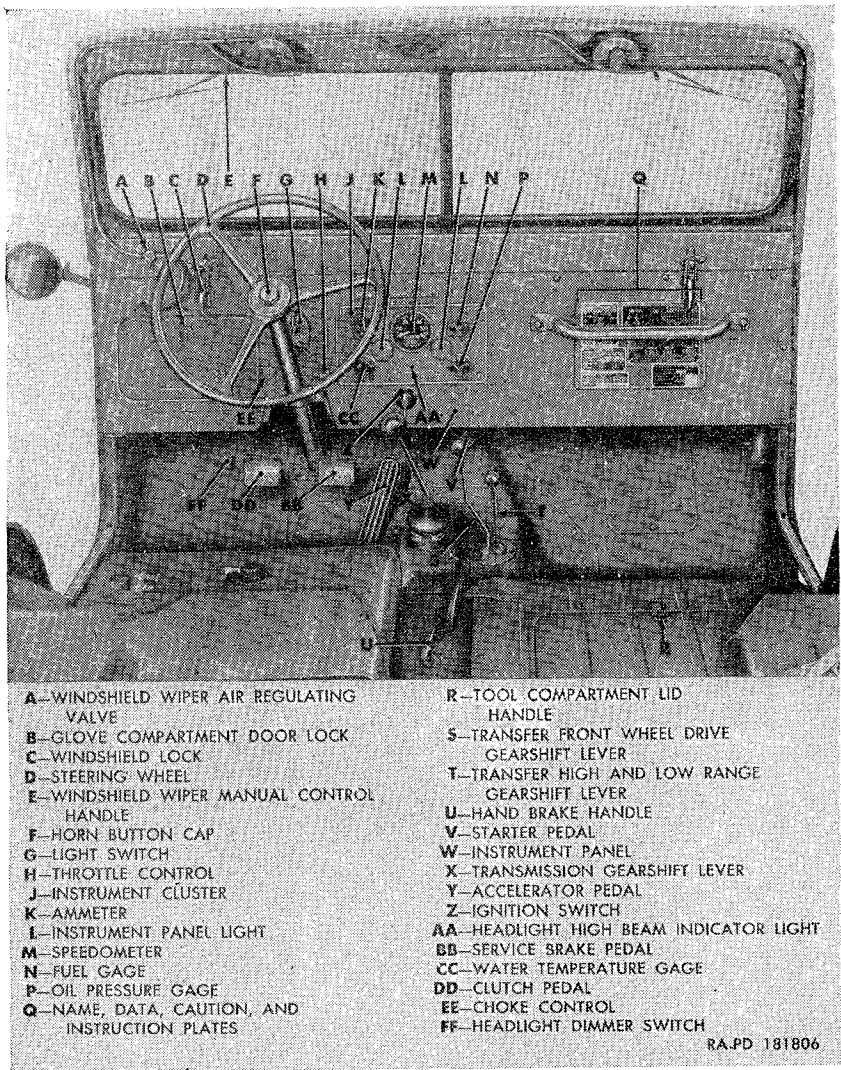
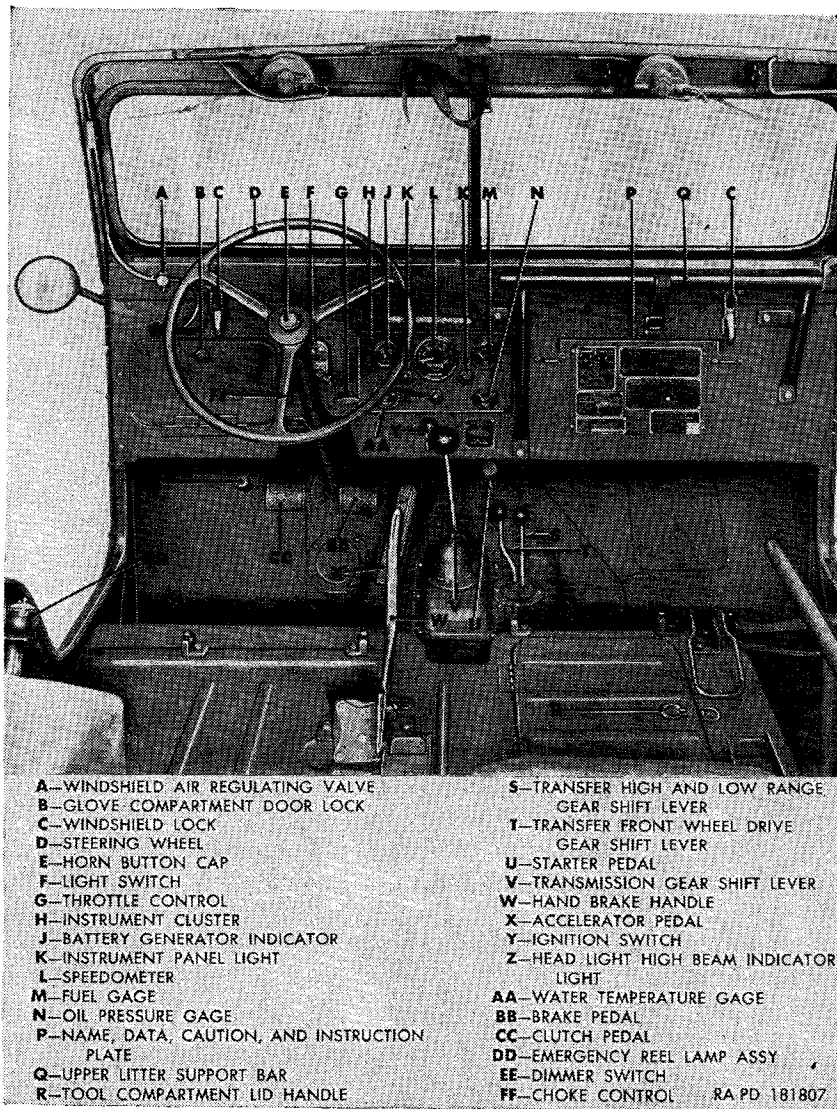
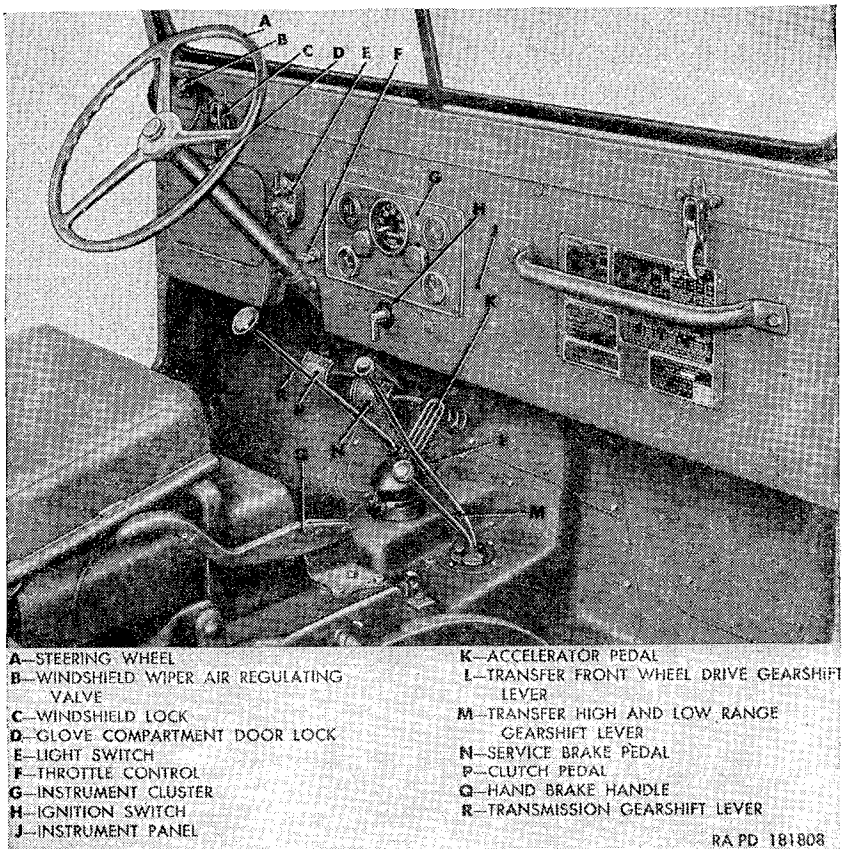
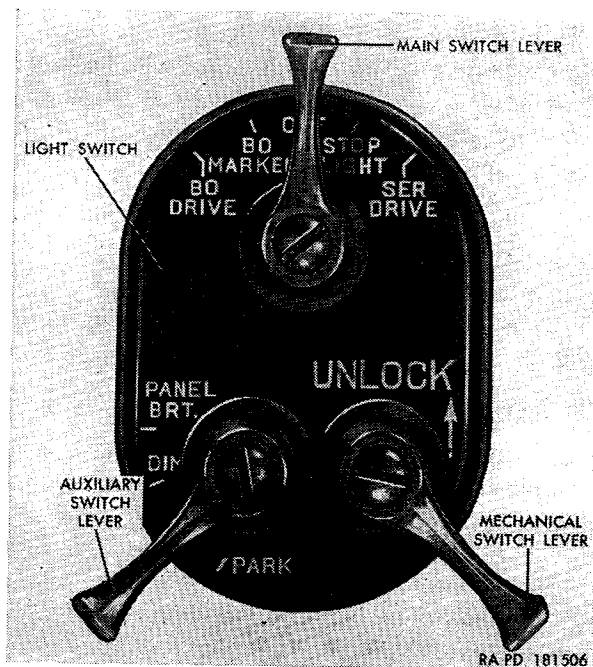

Figure 11. Driver's compartment (M38A1)—rear view—seat removed.
Figure 12. Driver's compartment (M170)—rear view—seat removed.
Figure 13. Driver's compartment (M38A1)—right view.
Figure 15. Light switch—levers in off positions.
*b.* All pedal and hand lever controls, instruments, gages, and switches are grouped in the driver's compartment (figs. 11 and 13) and are readily accessible to the driver for the operation of the vehicle. The major graduations, letters, figures, and pointer tips on all instruments and gages grouped in the instrument cluster (J, fig. 11) are coated with luminous paint for visibility during night operation.
The steering wheel (D, fig. 11 and A, fig. 13), located on the left side of the driver's compartment, turns the front wheels and thereby steers the vehicle. Turn the steering wheel clockwise for a right turn and counterclockwise for a left turn.
The service brake pedal (BB, fig. 11 and N, fig. 13) located on the upper-front floor pan cover to the right of the steering gear jacket and is accessible to the driver's right foot. This pedal controls the hydraulic service brakes on all four wheels. Depress the service brake pedal to apply the brakes. The degree of brake application is dependent upon the amount of physical effort applied to the brake pedal. Release the pedal to release the brakes.
The clutch pedal (DD, fig. 11 and P, fig. 13) is located on the upper-front floor pan cover at the left of the steering gear jacket and is accessible to the driver's left foot. This pedal functions to engage and disengage the clutch with and from the engine flywheel thereby connecting and disconnecting the transmission with and from the engine. Depress the pedal to disengage the clutch. Release the pedal to engage the clutch.
The accelerator pedal (Y, fig. 11 and K, fig. 13) located on the lower-front floor pan cover to the right of the brake pedal, is connected to the carburetor throttle controls and governs the engine speed from idling to full speed in varying degrees dependent upon foot pressure applied. Depress the pedal to increase engine speed. Release the pedal to decrease engine speed. The pedal, when released, will automatically return the engine to the set idling speed.
The starter pedal (V, fig. 11), attached to the upper-front floor pan cover at the right of the accelerator pedal, is a foot-operated control which actuates the starter switch on the starter, causing the starter to become engaged with the engine flywheel, thus cranking the engine. Depress the starter pedal to crank the engine. The pedal, when released, returns automatically to the normal position.
The transmission gearshift lever (X, fig. 11 and R, fig. 13) is located in the transmission control lever cover and extends upward into the driver's compartment. This manually operated lever, accessible to the driver's right hand, may be shifted from neutral position to place the transmission in first, second, third or reverse speeds as indicated on the shifting instruction plate (fig. 6). Operation of the transmission gearshift lever is described in paragraphs 43 and 45.
*a. Front Wheel Drive.* The transfer front wheel drive gearshift lever (S, fig. 11 and L, fig. 13), located in the driver's compartment immediately to the right of the transmission gearshift lever, controls the front axle drive selection. Shifting positions for this lever are illustrated on the shifting instruction plate (fig. 6). Operation of the lever is covered in paragraphs 43 and 46.
*b. High and Low Range.* The transfer high and low range gearshift lever (T, fig. 11 and M, fig. 13), located in the driver's compartment at the right of the transfer front wheel drive gearshift lever, provides for manual selection of auxiliary speed ranges in the transfer. This lever may be positioned in any one of three positions (low range, neutral range, and high range) depending upon operating conditions.
The hand brake handle (U, fig. 11 and W, fig. 12), located at the right of the driver's seat, actuates the mechanical hand brake mechanism mounted on the transfer. To set the hand brake, pull on the hand brake handle. To release the hand brake, press the release lever on the underside of the handle and permit handle to return to the released position. A ratchet mechanism within the handle will hold the hand brake applied until released by pressing the release lever.
The throttle control (H, fig. 11 and F, fig. 13), located at the lower edge of the instrument panel at the right of the steering gear jacket, provides a hand-operated control of engine speeds. It is primarily used to set the carburetor throttle at the desired starting and warmup speed. To accelerate engine, pull throttle control out to desired position. To return engine to its set idling speed, turn control 90° or more to the right or left and push control in against instrument panel. A ratchet arrangement is incorporated in the control to hold it in the desired pulled-out position. Control must be positioned so the imprinted THROTTLE is right side up before ratchet will engage.
The choke control (EE, fig. 11) is located at the lower edge of the instrument panel at the left of the steering gear jacket. This control is connected to the lever of the carburetor choke valve shaft with lever assembly which closes in proportion to the degree the choke control is pulled out. The control is used when starting and operating a cold engine. Pull the control out from instrument panel as desired when starting a cold engine. Push control all the way in against instrument panel after engine is started and operating correctly.
The lever-type ignition switch (Z, fig. 11 and H, fig. 13) is mounted on the instrument panel, directly below the instrument cluster. To turn the ignition circuit on, turn the lower end of the switch lever to the left (counterclockwise) until opposite end of lever is alined with the ON position imprinted on the ignition switch instruction plate (fig. 9). When ignition circuit is on, all the electrical gages in the instrument cluster will become energized, permitting reading of their values. To turn the ignition circuit off, turn lower end of switch lever to the right (clockwise) until opposite end of lever is alined with the OFF position imprinted on instruction plate.
(fig. 15)
*a. General.* The light switch (E, fig. 13), located on the instrument panel directly in front of the steering gear jacket, is a three lever-type with main switch, auxiliary switch, and mechanical switch levers. The light switch controls all the lights on the vehicle.
- (1) *Main switch lever.* The five-position main switch lever, located at the top of the light switch with the switch lever pointing up, can be positioned to energize the circuit to all the vehicle lights including the instrument panel and parking lights.
The headlight dimmer switch (FF, fig. 11) is located to the left of the clutch pedal. This foot-operated switch, accessible to the driver's left foot, is used to control the high and low beams of the headlights. With bright lights on (high beam), depress the dimmer switch to change to low beam and dim lights. To switch to bright lights, de-
press the dimmer switch. The headlight high beam indicator light (AA, fig. 11) indicates when high beam or bright lights are on.
Two windshield locks (C, figs. 11 and 13) are provided on the windshield assembly to hold it in the vertical position. To disengage windshield locks from the windshield locking clamp catches on the instrument panel, pull locks out at the bottoms. To engage windshield locks, position locks over the windshield locking clamp catches and push bottoms of locks toward instrument panel. Lowering and raising of the windshield assembly is described in paragraph 254.
The glove compartment door lock (B, fig. 11 and D, fig. 13) is located on the top of the glove compartment door on the extreme left of the instrument panel. To open glove compartment door, press button in center of the lock and pull door open. To close the glove compartment door, swing the door up against instrument panel. The lock will automatically latch when door is closed.
The tool compartment is located under the front passenger seat on the right side of the driver's compartment and provides for vehicular tool stowage. To gain access to tool compartment, swing front passenger seat up and forward. To open tool compartment lid, turn the tool compartment lid handle (R, fig. 11) 90° and pull upward. To close tool compartment lid, lower lid making sure handle is turned 90° to clear flange of tool compartment, and lock the lid by turning handle 90° toward front of vehicle.
The windshield wiper air regulating valve (A, fig. 11 and B, fig. 13) is located on the windshield assembly at the left of the steering wheel. This valve controls the operation of the windshield wiper motors. To turn the motors on, turn the valve lever counterclockwise. To turn the motors off, turn the valve lever clockwise.
A windshield wiper manual control handle (E, fig. 11) is mounted on each windshield wiper motor for manual operation of the windshield wiper blade. To operate blade, move handle back and forth as necessary.
The horn button cap (F, fig. 11) is located in the center of the steering wheel. Depress cap to sound the horn. Release cap pressure to stop sounding of horn.
The ammeter (M38A1) (K, fig. 11) and the battery generator indicator (M170) (J, fig. 12) are located in the upper-left corner of the instrument cluster. The ammeter indicates the amount of current flowing to and from the batteries, depending upon whether the battery is being charged or discharged. The ammeter dial (M38A1) is calibrated to register from DIS to CHG, with zero at the midfront of the needle swing. The battery generator indicator (M170) is a combination voltmeter and ammeter. When the ignition switch is turned on, before the engine is started, the position of the needle indicates the voltage available in the battery: red, low voltage; yellow, normal voltage; and green, high voltage. After the engine is started, the indicator functions as an ammeter. The ammeter will generally show a charge when the engine is first started and continue to show a charge as engine speed is increased, depending upon the amount of electrical power being used. Abnormal readings (par. 86), when engine is operating at normal speed, indicates an inoperative generating system. If improper operation of generating system is indicated by ammeter, stop engine and investigate cause (par. 90a).
The fuel gage (N, fig. 11), located in the upper right corner of the instrument cluster, indicates the amount of fuel in the fuel tank. The gage dial is marked with E,  $\frac{1}{4}$ ,  $\frac{1}{2}$ ,  $\frac{3}{4}$  and F. The fuel gage functions only when the ignition switch is on. If gage is inoperative, refer to paragraph 90b.
The oil pressure gage (P, fig. 11), located in the lower right corner of the instrument cluster, indicates the engine oil pressure when the engine is running.
The water temperature gage (CC, fig. 11) is located in the lower left corner of the instrument cluster. The gage dial is marked from 60° to 260° F. This gage, which is actuated by the engine water temperature sending unit mounted on the engine, indicates the engine coolant temperature. Normal operating temperature is 160° to 180° F. If temperature rises suddenly during warmup or normal operation, stop engine and investigate cause (par. 88). Temperature below 140° F., during normal operation indicates an inoperative cooling system. If temperature is below 140° F., stop engine and investigate cause (par. 88). For inoperative gage, refer to paragraph 90*c*.
Two instrument panel lights (L, fig. 11) are located on the instrument cluster below, and one to either side of the speedometer. These lights provide illumination for the instruments and gages during night operation. The auxiliary switch lever on the light switch (fig. 15) actuates these lights and permits them to be turned off, on dim, or on bright. Metal shields over the panel light lamps prevent reflection during night operation.
The headlight high beam indicator light (AA, fig. 11), located on the instrument cluster below the speedometer, indicates when the high beam of the headlights is on. This light will go out when headlights are returned to low beam by operation of the headlight dimmer switch (par. 25).